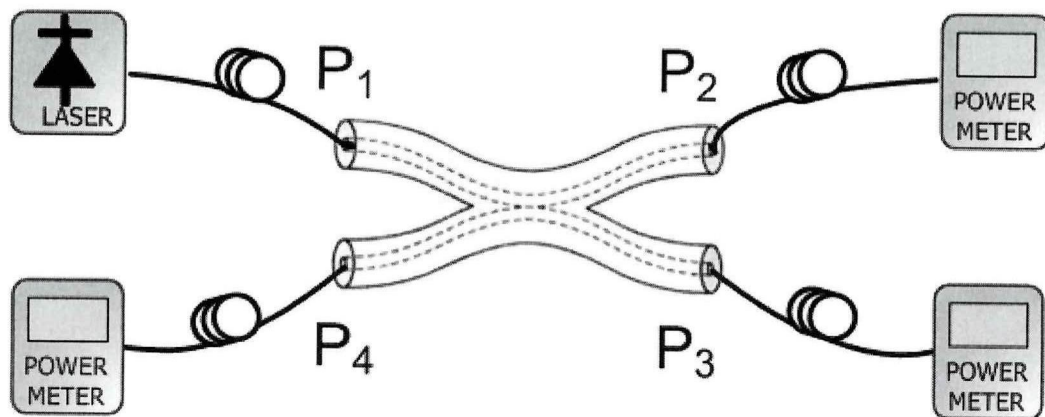

Figure Q4(b)
- Q3** (a) List and describe **TWO (2)** primary characteristics of light detectors. (4 marks)
- Q4** (a) List **TWO (2)** types of optical coupler that is available in the market. (2 marks)
- (b) You are required to characterize a biconical-tapered coupler of unknown specification as shown in **Figure Q4(b)**. The power injected from the laser source into the coupler is 5 mW. The measured output power shows a reading of 0.7 mW, 2.8 mW and 1.5 μW for P_2 , P_3 and P_4 , respectively. Determine the:
- (ii) The EDFA can be extended to become a fiber laser. Suggest **TWO (2)** ways to modify the EDFA to become an erbium-doped fiber laser (EDFL). Also, state the difference between laser and EDFA. (5 marks)